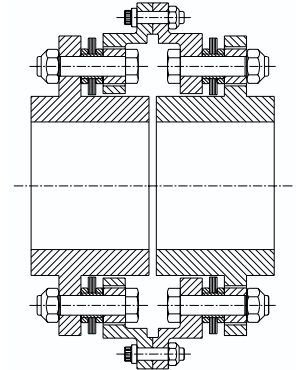

Figure 7. Bolt Adapter Flanges Together
5.3 Bolt the flanges together using the flange bolts and nuts. See Figure 7. Tighten all flange nuts evenly and in an alternating fashion to the torque specified in Table 4.